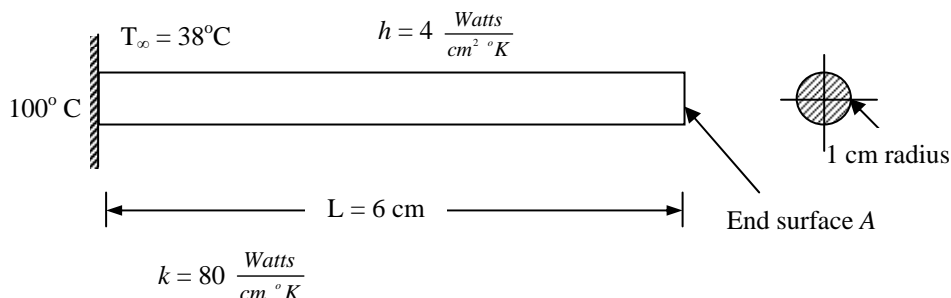

Fig. 4
7. Find the temperature distribution in the one dimensional fin shown in fig. 4. [16]